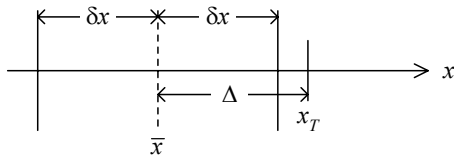

Fig. 5
- If $\Delta > \delta x$ (Fig. 5), then the discrepancy is significant. This indicates that you made a mistake or there exist some systematic errors in equipment.